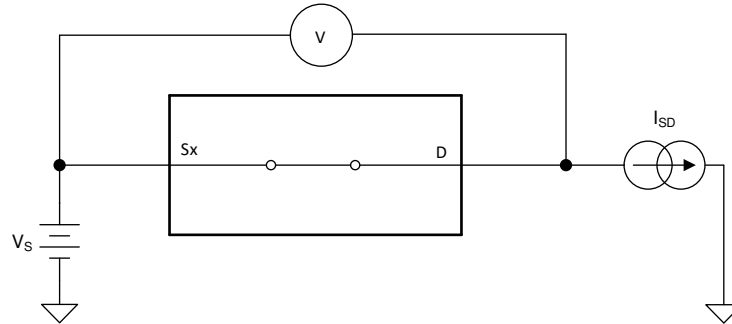

图 7-1. On-Resistance Measurement Setup
The on-resistance of a device is the ohmic resistance between the source (Sx) and drain (D) pins of the device. The on-resistance varies with input voltage and supply voltage. The symbol R_{ON} is used to denote on-resistance. The measurement setup used to measure R_{ON} is shown in 图 7-1. Voltage (V) and current (I_{SD}) are measured using this setup, and R_{ON} is computed with $R_{ON} = V / I_{SD}$: